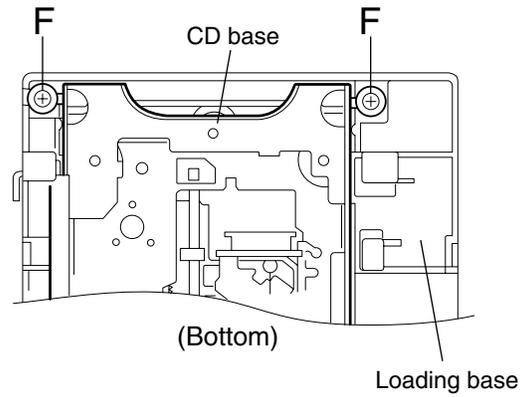

Fig.10
■ **Removing the C.D. gear (1), (2) and (3)**
**(See Fig.10 ~ 13)**